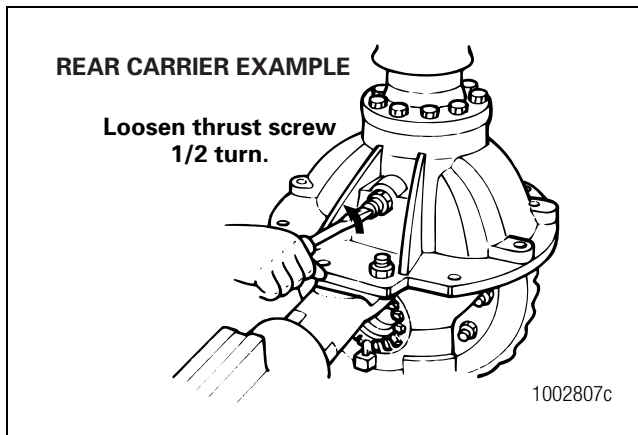

Figure 5.75
4. Loosen the thrust screw, if equipped, 1/2 turn or 180 degrees. Figure 5.75.